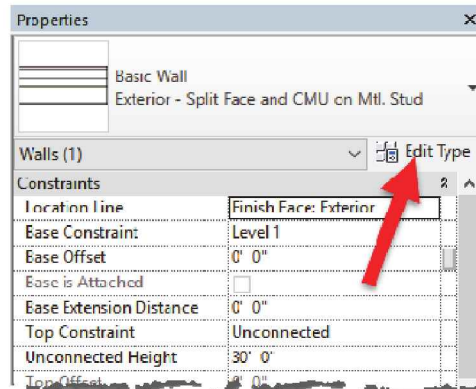

FIGURE 5-2.10
22. Select the **Edit Type** button (Figure 5-2.10).